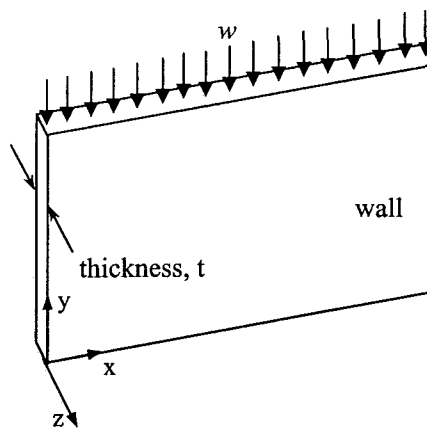

Figure 2
- (b) Figure 2 shows a thin wall structure subjected to a distributed load w in the plane of the wall. Justify why this problem can be classified as a plane stress problem. Derive the set of equilibrium equations for an infinitesimal volume of the wall.